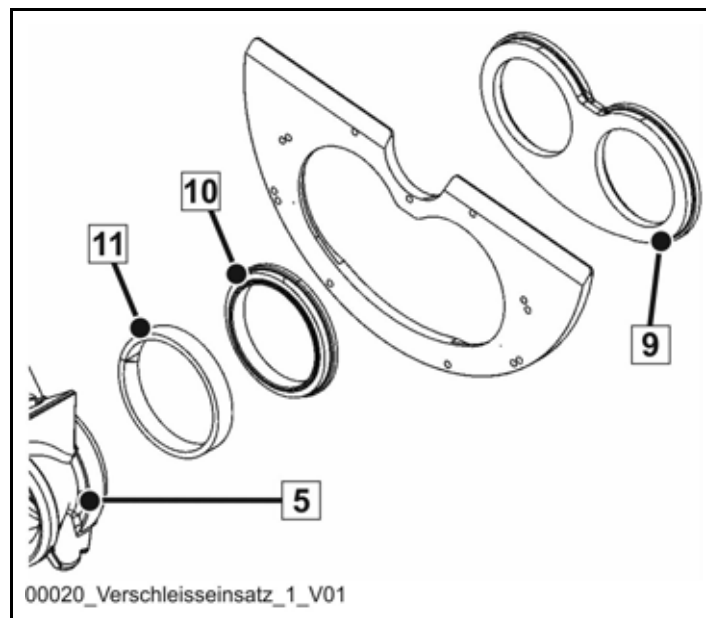

Fig. 315
A one-piece wearing insert (9) (Fig. 315) made of white cast iron is used as standard.